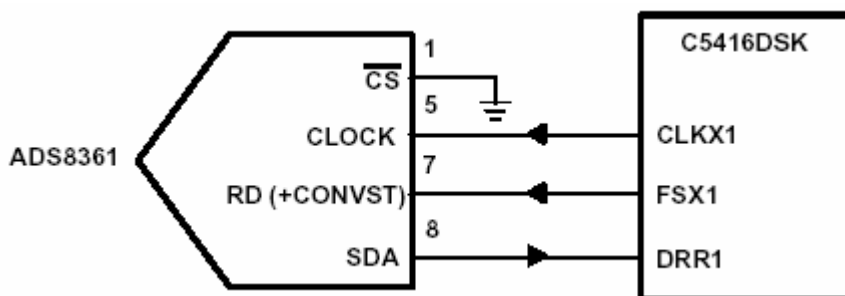

Figure 1. Hardware Interface Block Diagram
The hardware interface is seamless between the C5416™ DSK and the ADS8361 EVM. The DAP data acquisition system interface board provides direct access to the C5416™ DSP McBSP ports (note: this report uses McBSP1). The hardware connections shown in Figure 1 are via the DAP data acquisition system interface board. The CLOCK, RD(+ CONVST), and SDA pins from the ADS8361 are connected to CLKX1, FSX1, and DRR1 pins of McBSP1 respectively. The chip select (CS) pin is grounded because only one A/D converter is placed on the port. If more than one device is on the bus, then chip select should be controlled by any available GPIO on the C5416™ DSK.